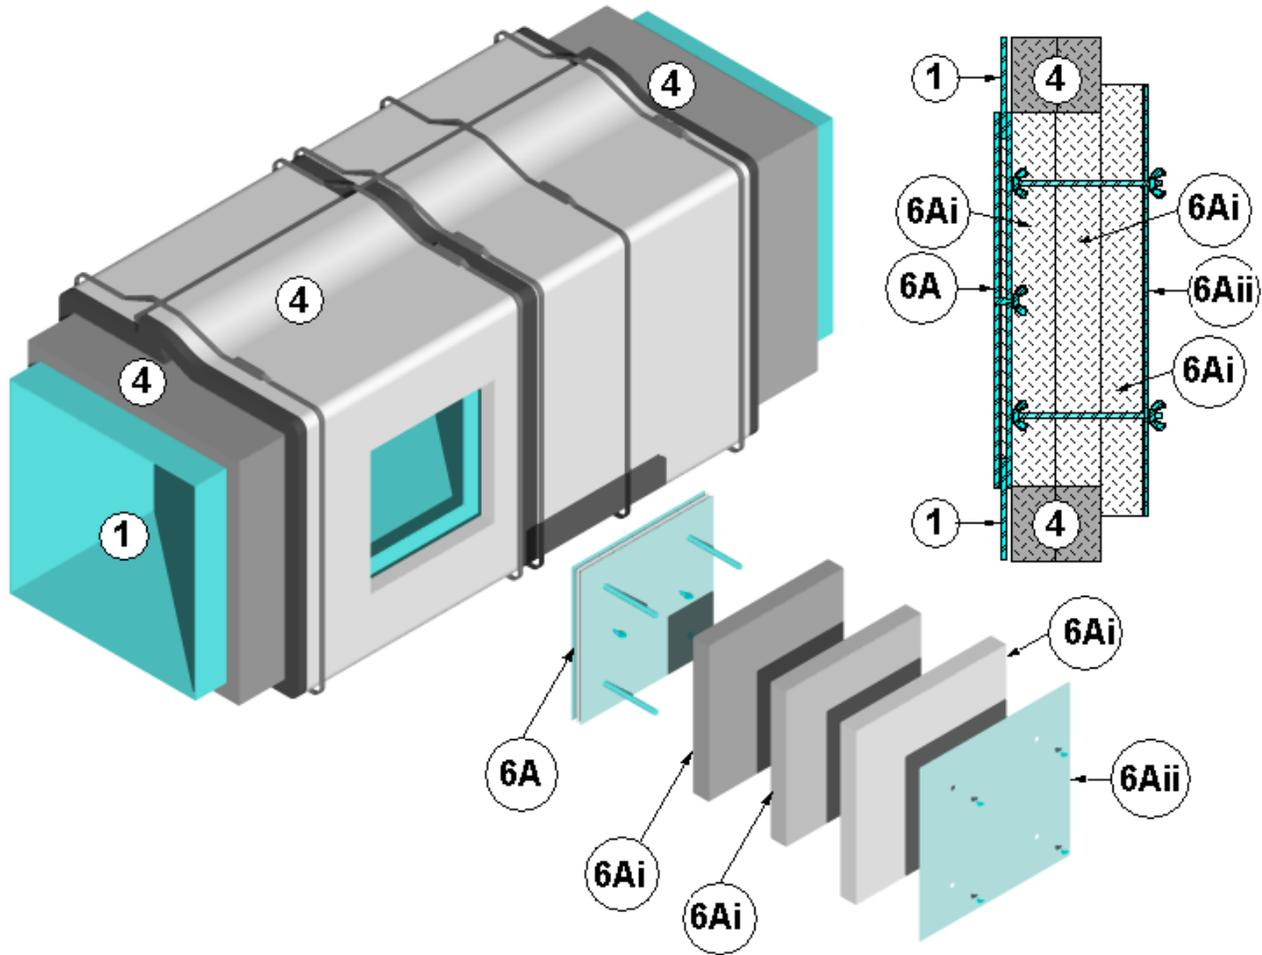

Figure 2 – Ductmate Pre-fabricated Access Door
OPTIONAL PRE-FABRICATED ACCESS DOORS: Refer to Figure 2. Mark a clean-out access opening location on the insulated grease duct (Item 1) at its mid-height along the horizontal section. Cut an opening in the duct insulation (Item 4) the same size as the outside dimension of the desired pre-fabricated access door model. Remove and discard the cut duct insulation (Item 4). Cut an opening into the side of the grease duct (Item 1) according to the manufacturer's instructions for the size of the pre-fabricated access door to be installed. Install and tightly secure the pre-fabricated access door in accordance with the manufacturer's instructions to the grease duct (Item 1). Cut the outer layer of duct insulation (Item 4) so that a 1 in. perimeter of the inner layer of duct insulation (Item 4) is seen, creating a "stair-step."
- ACCESS INSULATION: Refer to Figure 2. Remove the four (4), 3/8 in. diameter, corner-thumb bolts and